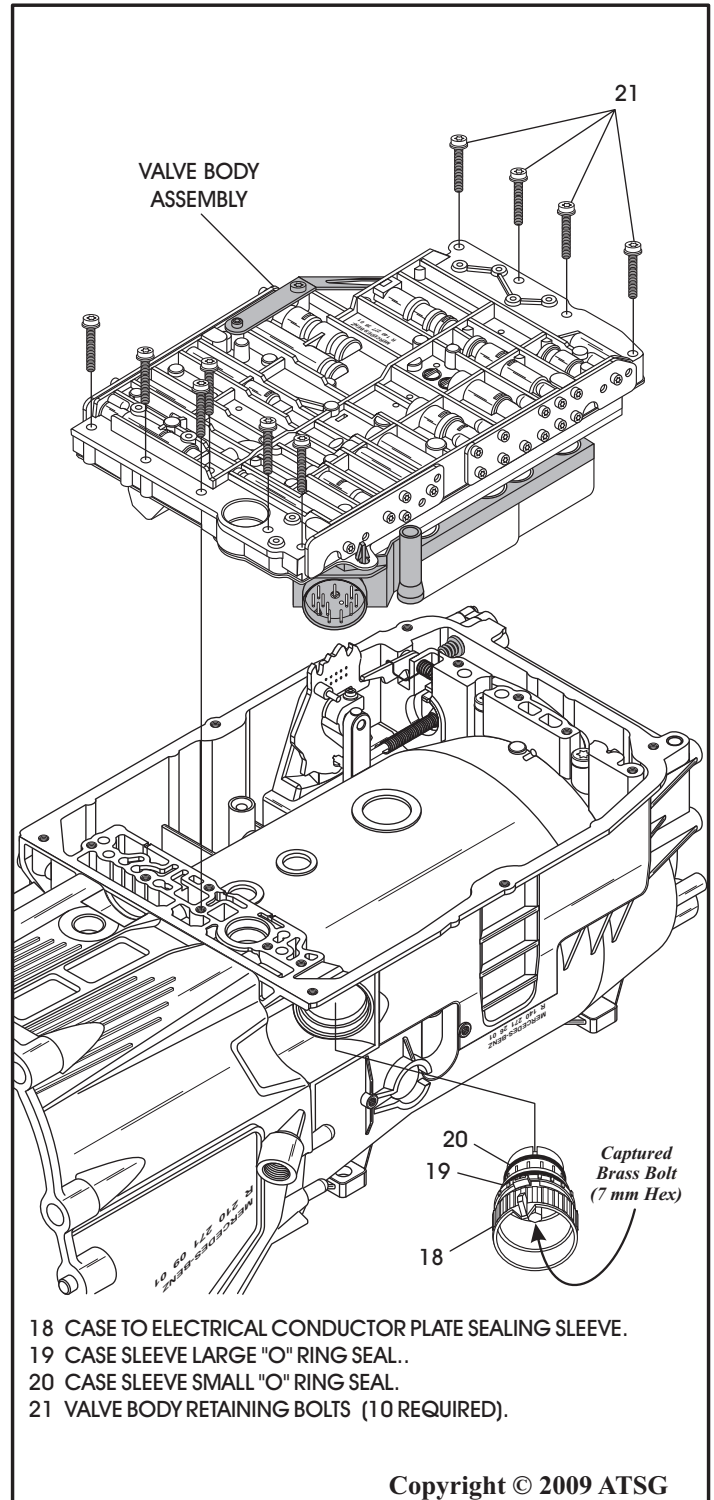

Figure 47
19. Remove the case to electrical conductor plate sealing sleeve, as shown in Figure 47.
- Note: You must remove the "captured" brass bolt in the center of the sleeve, as shown in Figure 47, using a 7 mm socket (9/32" socket will work as well).**
20. Remove and discard both the large and small "O" ring seals (See Figure 47).
21. Remove the ten valve body retaining bolts, as shown in Figure 47, using a 30 torx bit.
22. Remove the complete valve body assembly, as shown in Figure 47, by lifting straight up.